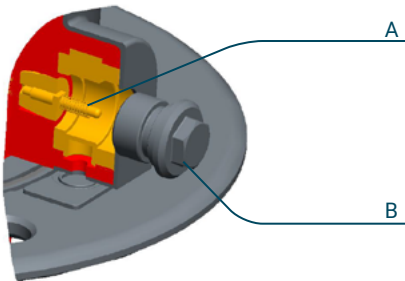

Figure 3
To verify the PD, capacitance or power factor unscrew the plug (A) and remove the spring (B) (Figure 3). After connect the coaxial cable of the instrument. When the measures are finished, the flange have to be fixed to earth with the spring and the plug (see Figure 3).